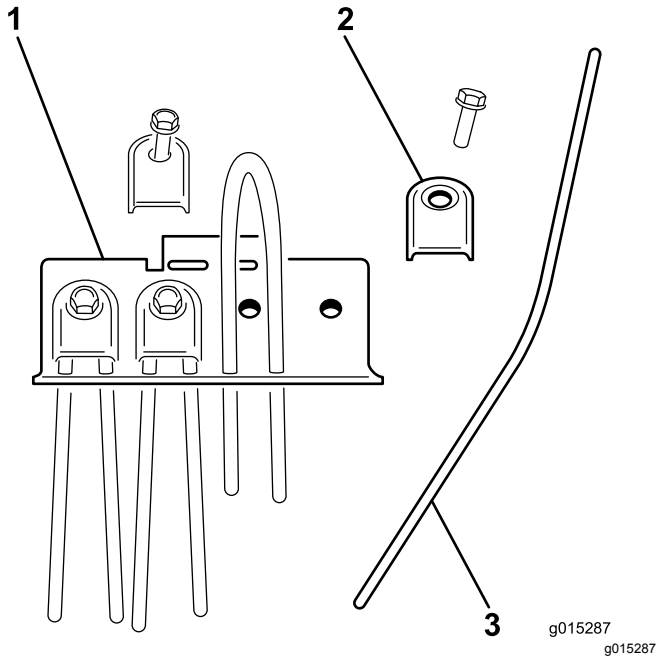

Figure 28
2. Remove the tine retainer and slide the damaged tine out (Figure 28).